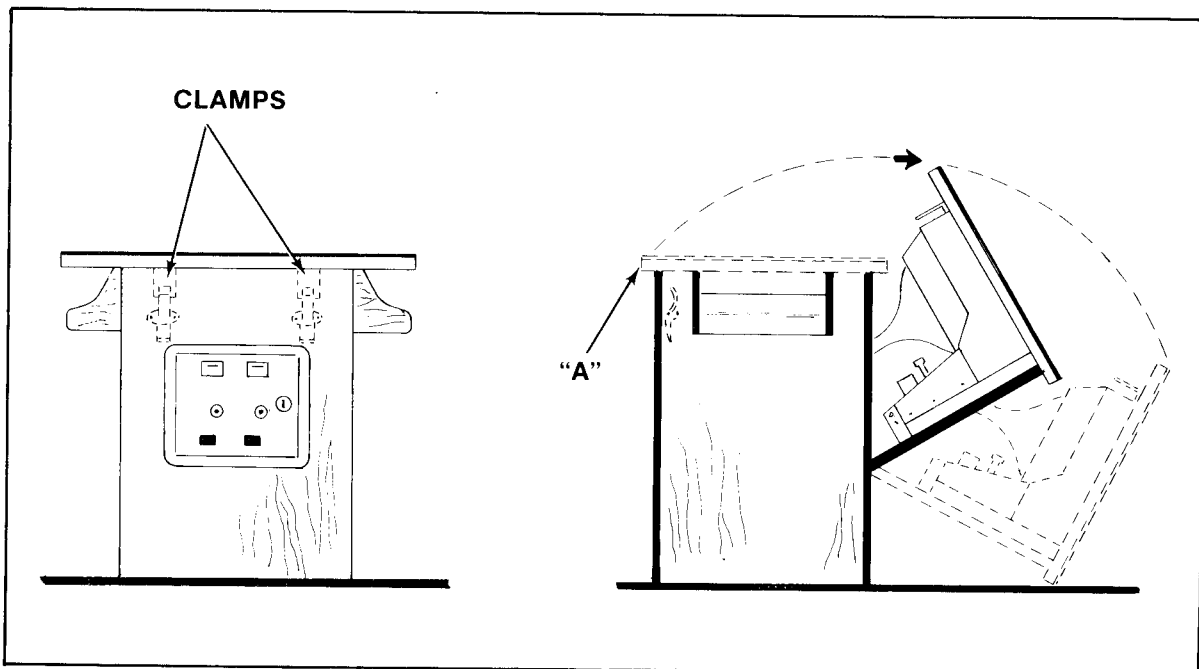

FIGURE 18
- ii. Open the coin box door and release the two latches indicated in Figure 18.
- iii. Grasp the table top at "A" and open it as indicated in Figure 18.